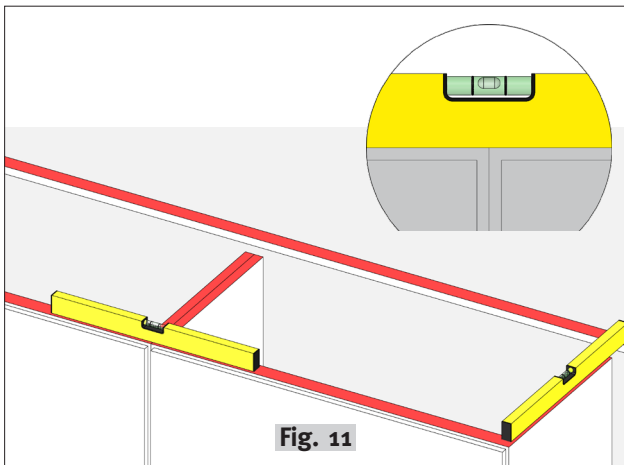

Fig. 11
**4a.** The cabinets should be placed perfectly levelled (**fig. 11 and 12**).